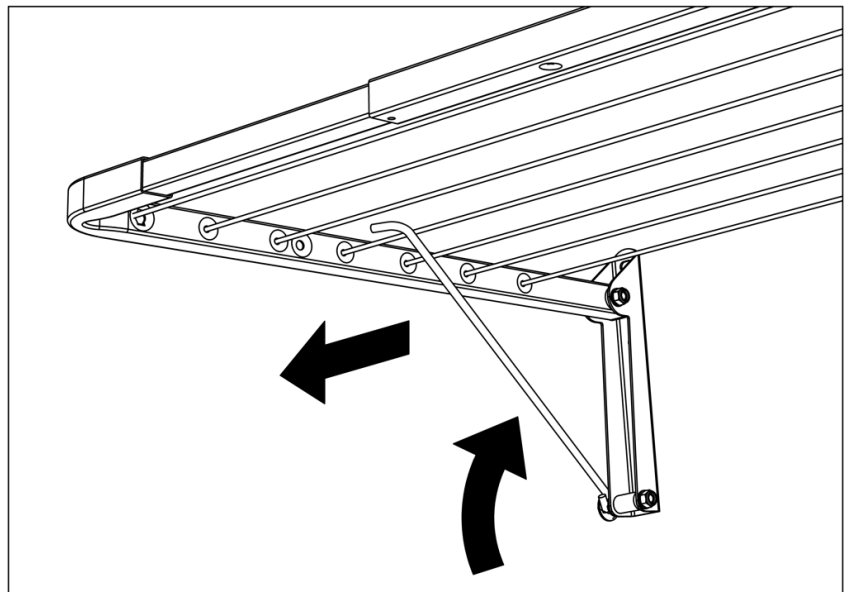

Fig 5. Operating wire stay.
- Moving to one side grab the wire stay and locate it into the hole in the arm. (Fig 5)